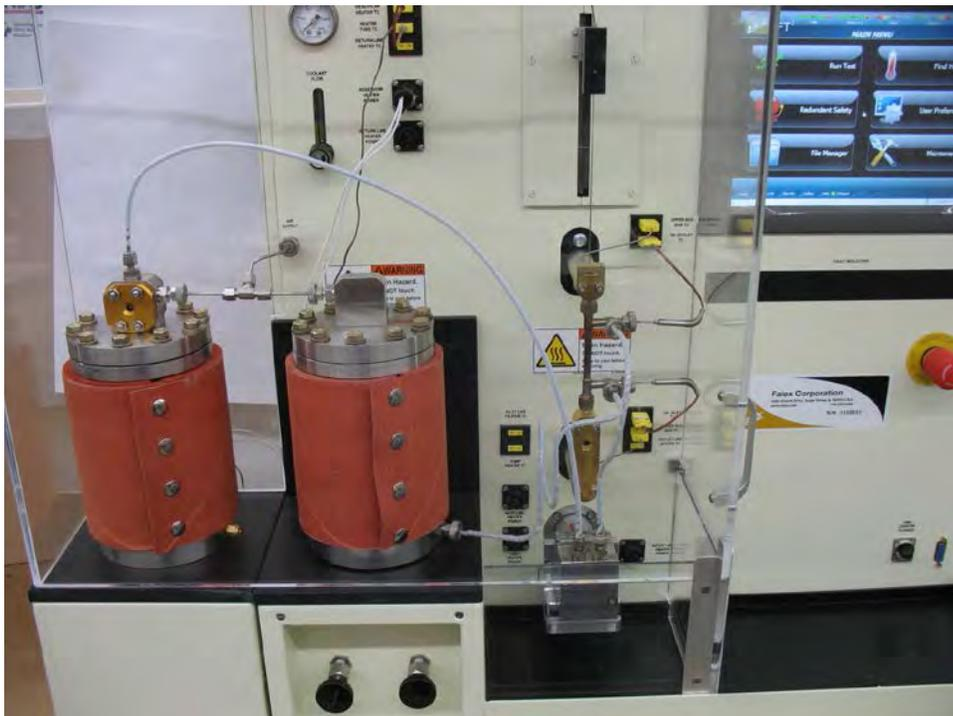

Figure H10 – Single pass (2nd reservoir) assembly with extended safety cover
14. Install the extended safety cover (figure H10).